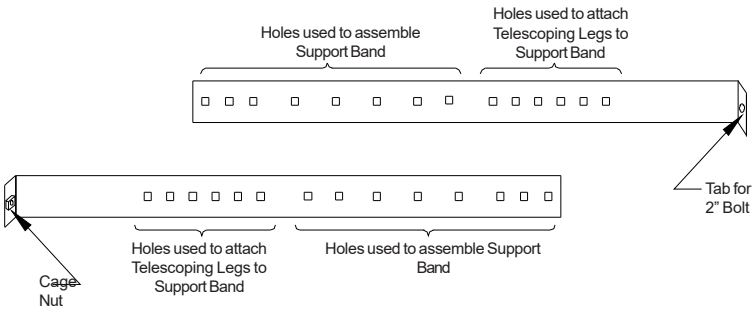
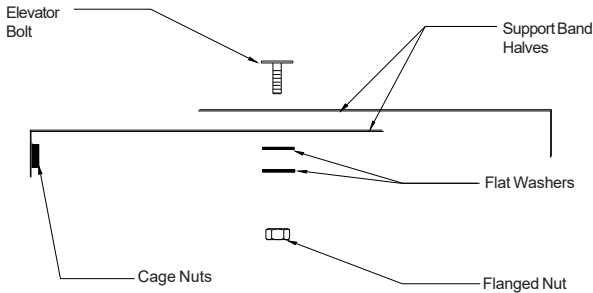

Figure 28 Support Band Holes Identifier
Figure 30 Topview assembly of Support Band -
17. For lateral stability of the chimney above the Wall Support, a Wall Band must be installed along an outside wall if the chimney is installed at 2" from the vertical wall and follow steps 17 to 19. Where horizontal adjustability is needed (more than 2" from the vertical wall), a Universal Wall Band can be use. For more detailed instructions see Steps 20 through 28 and Figures 30 through 33.
21. Place the two halves of the UWB Band as shown in Figure 21. Insert the flat head bolt through the middle set of holes in the band halves marked with the corresponding pipe diameter of the chimney being installed. (Ex. - for a 6" chimney, place the flathead bolts through the holes marked 6). The bolt should pass through the band halves with the tabs oriented outward (See Figure 30).
22. Place the Spacer Clip on the bolt used in the middle of the assembly and secure with washers and nut (See Figure 30).
- A. Measure the outside (OD) diameter of your chimney.
- B. From the single row of holes (see Figures 28 and 29), select the hole in each half that corresponds to the outside diameter identified with the chimney being installed. Place the two halves together. Insert an elevator bolt through the chosen holes (Ex - for a 10" OD chimney, place the elevator bolt through the holes identified for 10" OD). The elevator bolt should be oriented as shown in Figure 30. Secure the center bolt with washers and 1/4" flanged nut (see Figure 30). **NOTE:** On smaller diameter chimneys the excess band material can be cut off.